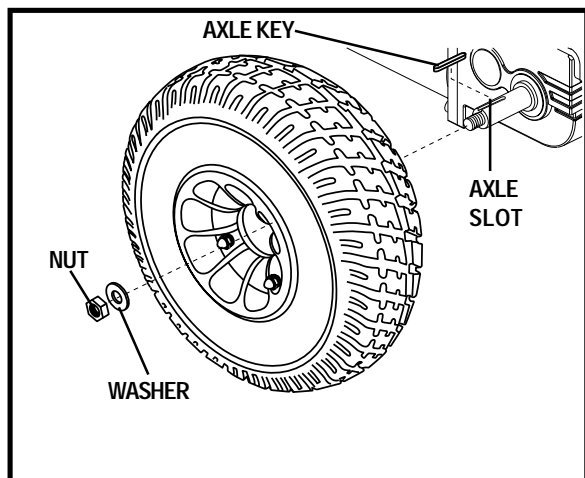

Figure 33. Jazy 1103 Ultra Drive Wheel
6. Remove the nuts and washers from the wheel hub to separate the rim halves. See figure 33.